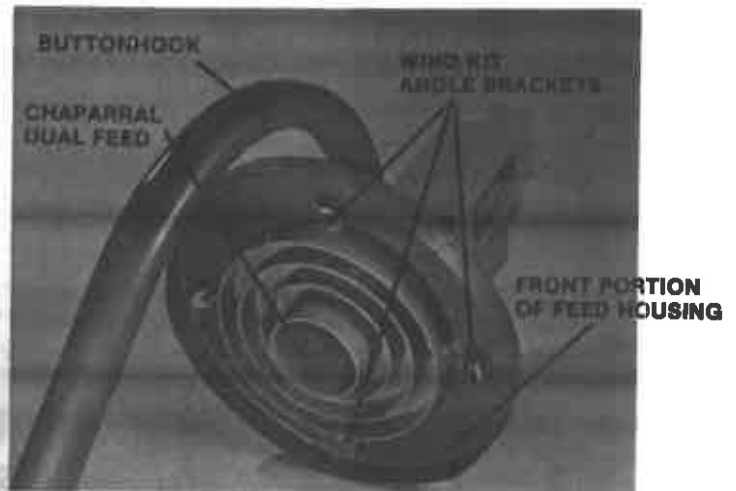

FIGURE 2
STEP 1. Attach the front portion of the feed housing to the feedhorn as shown in Figure 1 with (2) 1/4"-20x7/8" bolts. Where a wind kit is required, place the angle brackets between the housing and the feedhorn. Tighten both bolts. See figure 2.